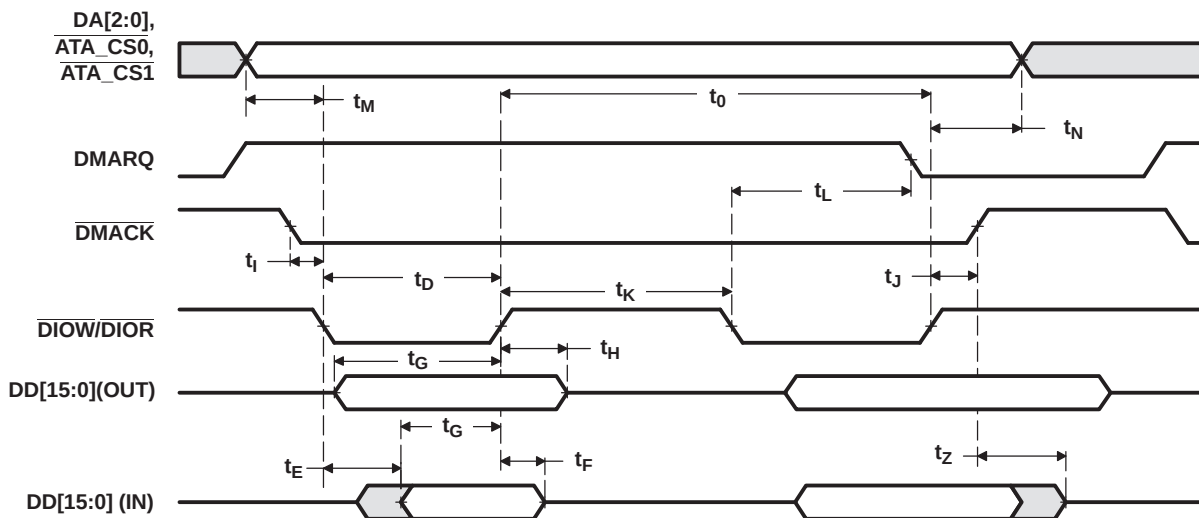

Figure 7-66. ATA Multiword DMA Timing
**Table 7-92. Timings for ATA Module — Multiword DMA AC Timing(1) (2) (see Figure 7-66)**